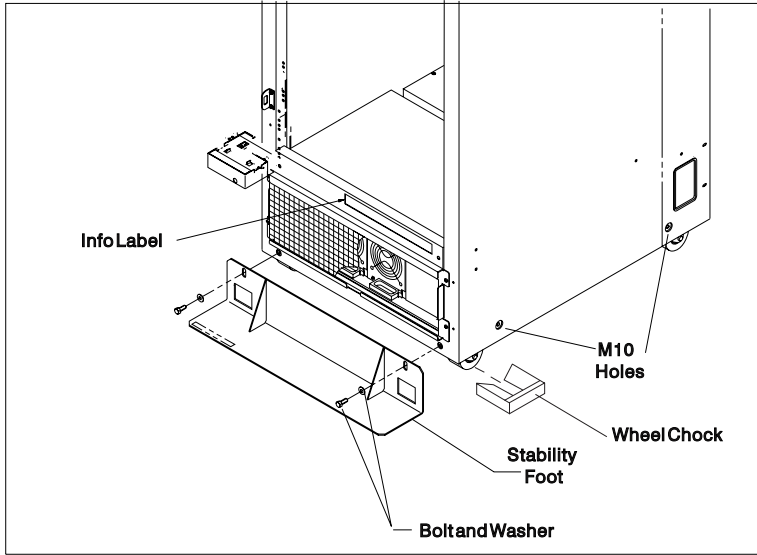

Figure 2-12. Installing the stability foot and wheel chocks
1. Place the stability foot at the bottom front of the frame. Line up the two holes with the bolt holes in the frame. See Figure 2-12 on page 2-16.